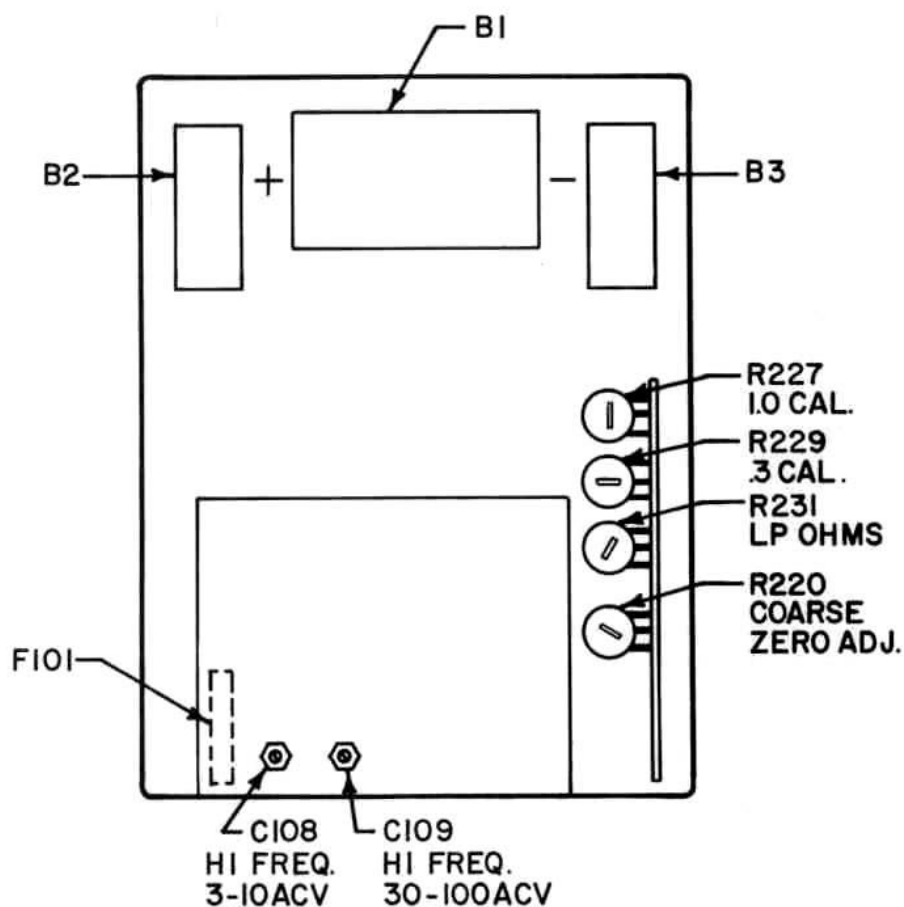

Fig. 1
3. Install D cell, observing polarity as indicated in Fig. 1.
4. Install two 9 Volt batteries, first snap battery terminal to batteries and then insert into side pockets as illustrated in Fig. 1.